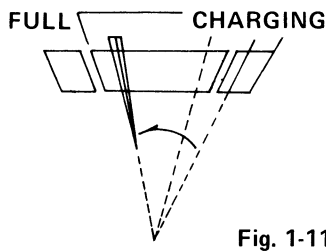

Fig. 1-11
- b. As the battery is recharged the pointer will move gradually toward the left as shown in Fig. 1-11.